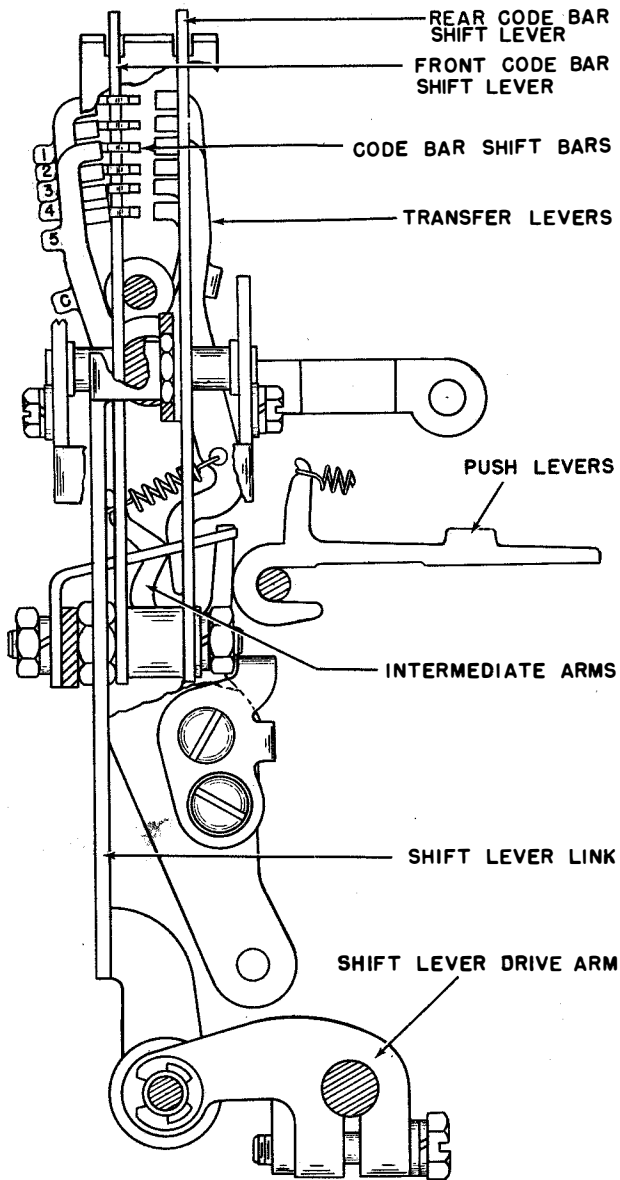

Figure 2-39. Code Bar Positioning Mechanism
(b) CODE BAR POSITIONING.—Each push lever (paragraph 4.c.(4) of this section) has an associated intermediate arm, transfer lever, and code bar shift bar (figure 2-39). In addition, there is a "common"